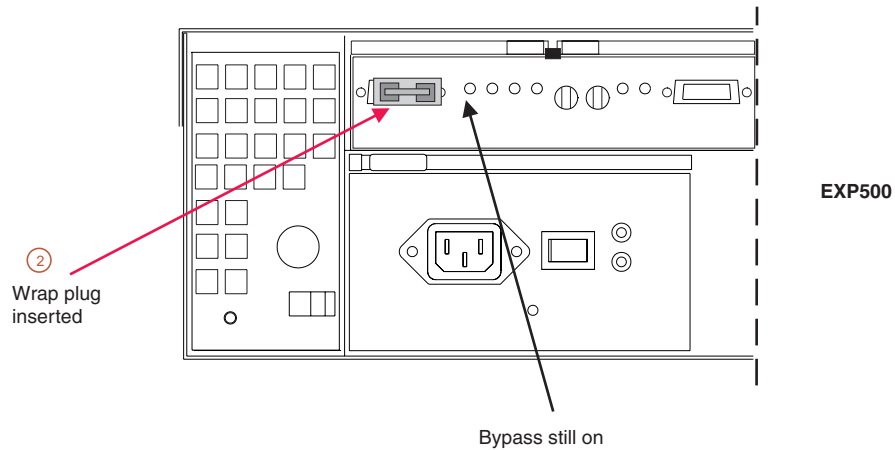

Figure 158. Insert wrap plug
2. Insert a wrap plug in the element from which you disconnected the cable. See Figure 158 on page 352.